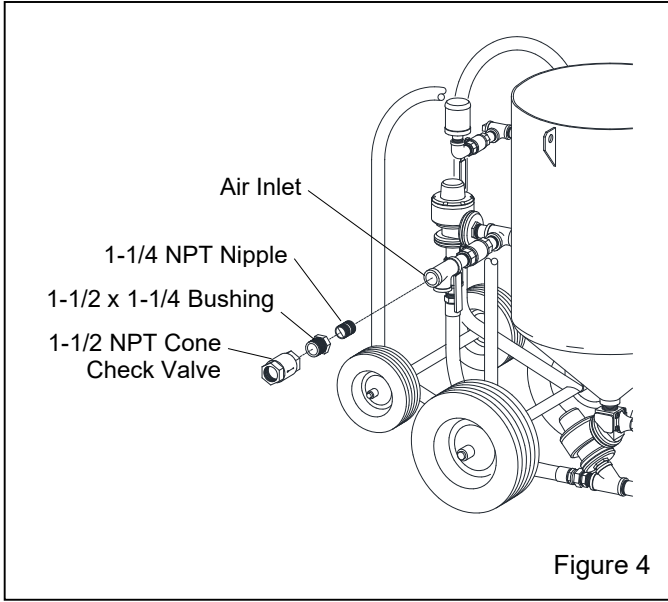

Figure 4
2.3.1 Where multiple blast machines are operating from a single air source, install a check valve at the air supply on each machine. The illustration in Figure 4 shows where to install a cone check valve on the blast machine.